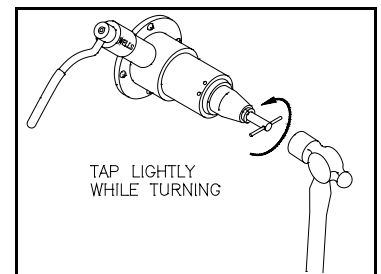

Figure 5.
- 6.3 Insert the collet wrench. Tap the end of the collet wrench **LIGHTLY** while turning the collet wrench counterclockwise. See Figure 5. If this does not release the collet, continue with the next step.